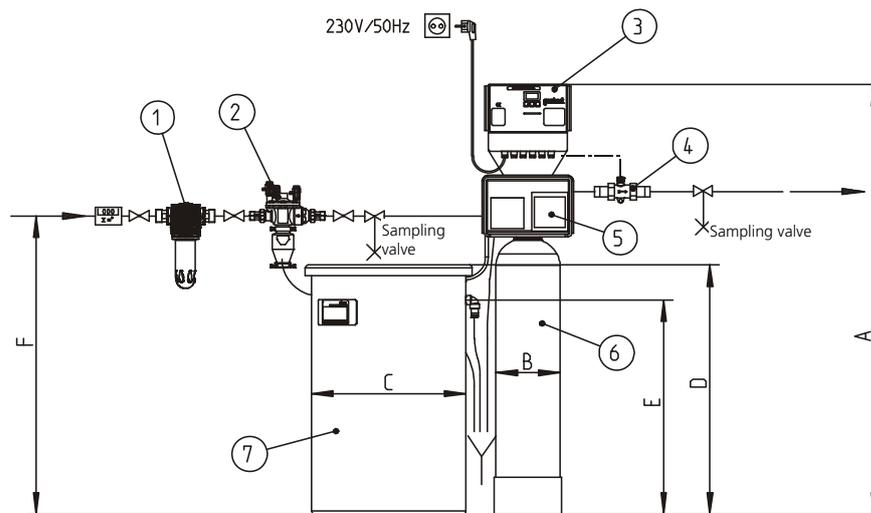

Fig. D-1 (a) : Installation drawing for softening system GENO-mat® WF
1. Connect the system to the water supply according to the installation drawing (fig. D-1 (a) and (b); pages D-6, D-7). Observe the instructions and recommendations given in chapter 1.
Dimensions in fig. D-1 (a); excerpt from table D-1